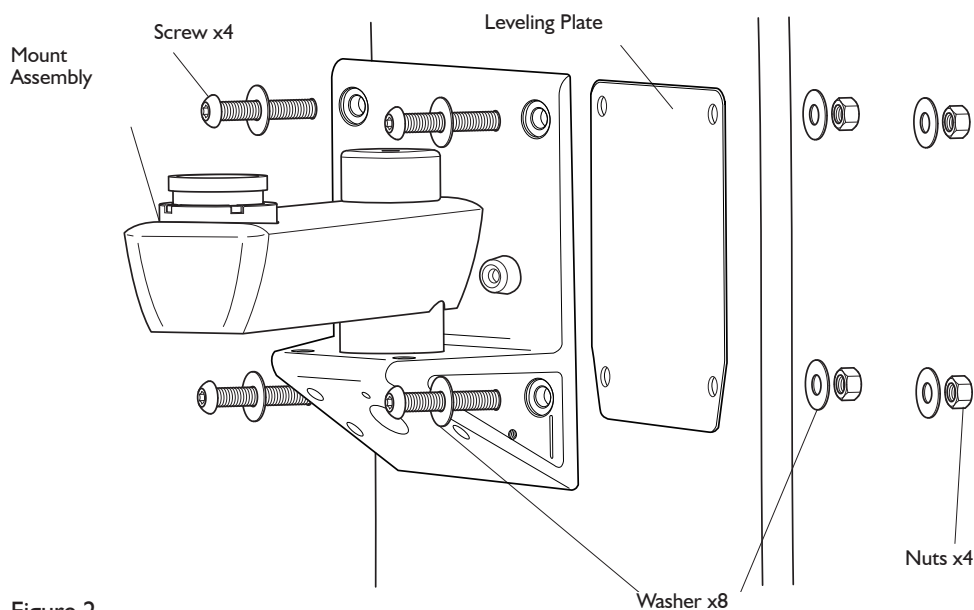

Figure 2
2. With a $\frac{7}{32}$ " hex key and a $\frac{9}{16}$ " wrench, install the Post Wall/Cabinet Mount Adapter to the cabinet with the supplied mounting hardware as shown in Figure 2, leaving the 4 mounting bolts loose for later leveling.